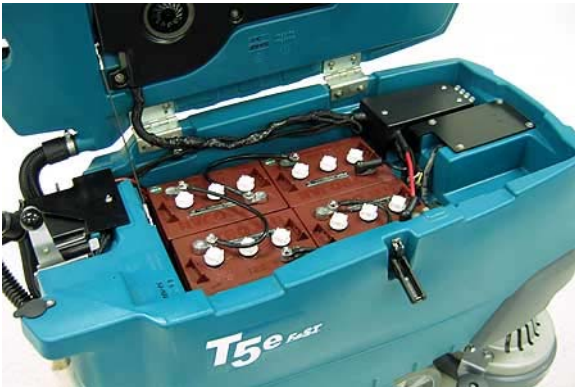
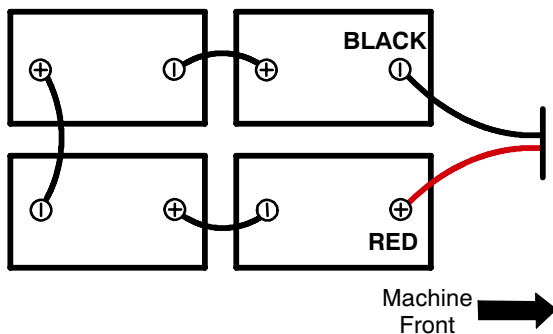

FIG. 1
FIG. 2
2. Carefully install the batteries into the battery compartment tray (Figure 1). Arrange the battery posts as shown (Figure 2).
3. Connect the battery cables to the battery posts as shown (Figure 2), RED TO POSITIVE (+) and BLACK TO NEGATIVE (-).